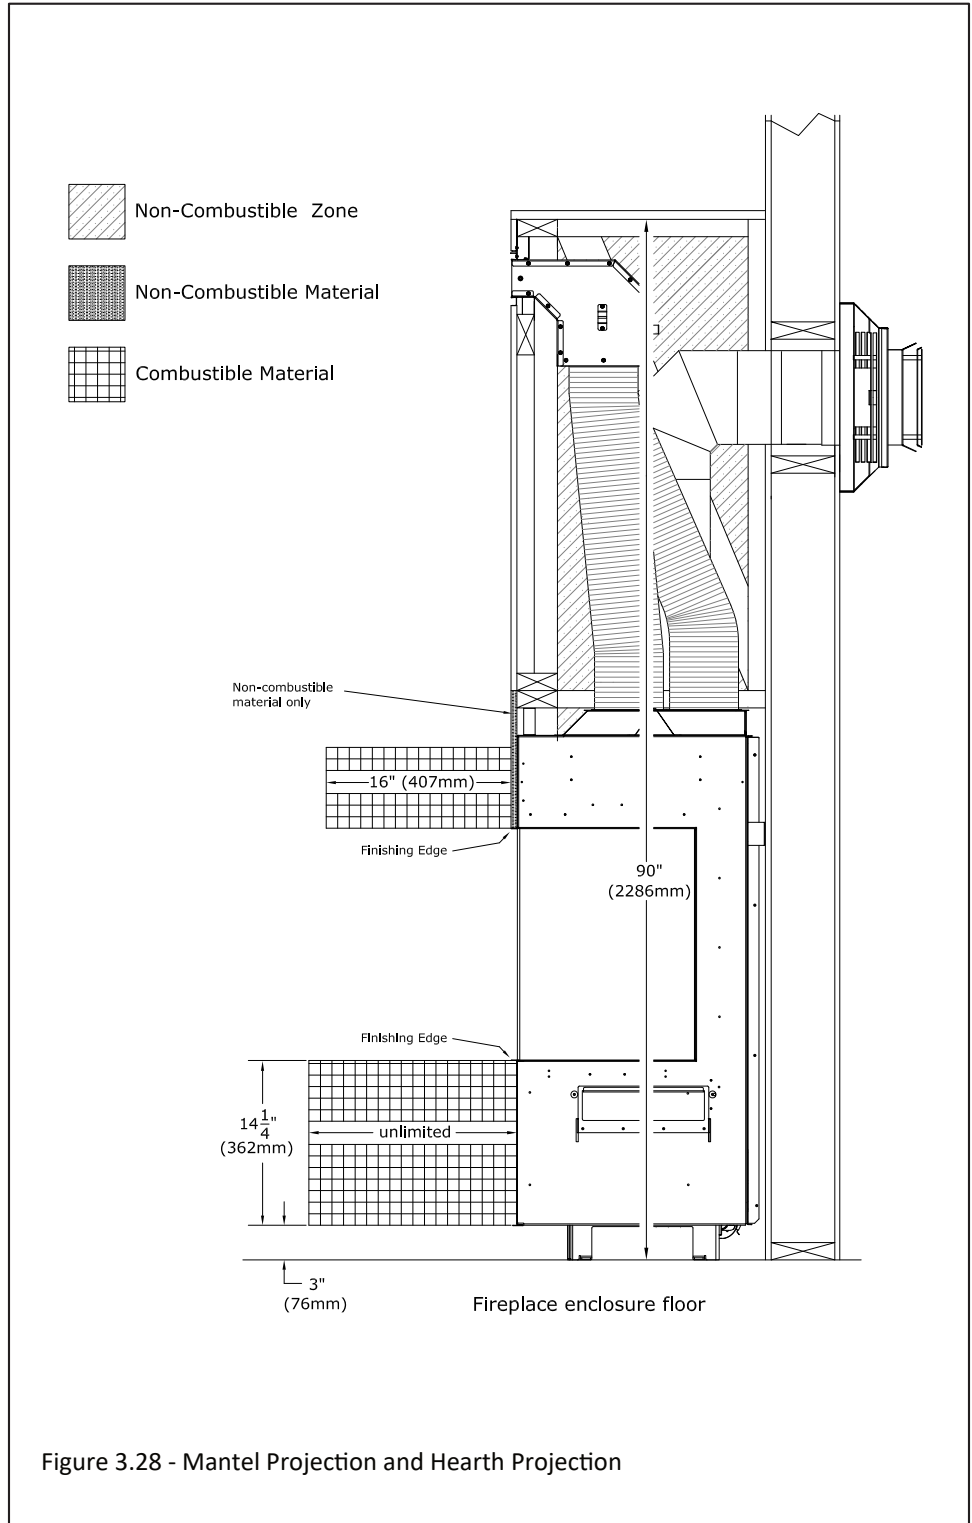

Figure 3.28 - Mantel Projection and Hearth Projection
- **Combustible Mantel Projections:** A maximum of a 16" (406mm) mantel can be installed flush at the side and top finishing edge. See Figure 3.28.
- **Combustible Hearth:** Combustible hearth can have an unlimited projection. Hearth can be raised flush to the bottom finishing edge. See Figure 3.28.